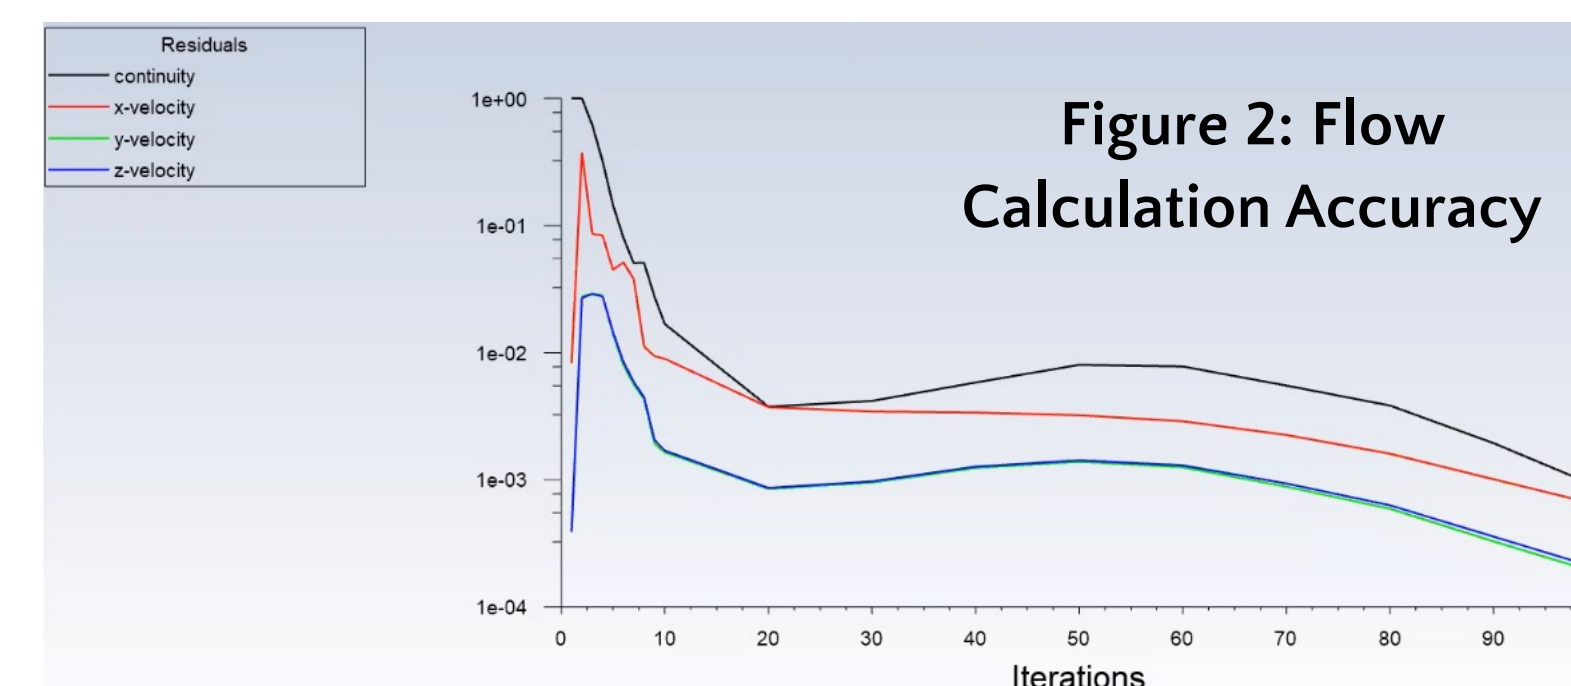

Figure 2: Flow
(2) Ansys Fluent (Flow Velocity Visualization):
- Flow calculations are found and graphed in Fig. 2 to ensure accuracy.